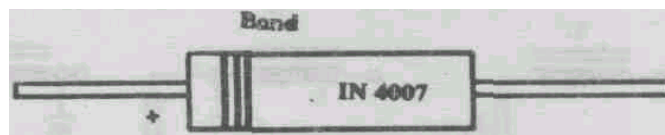

Fig. 3.4
- A band at one end of the diode indicates cathode (e.g., IN4007) as shown in Fig.3.4.